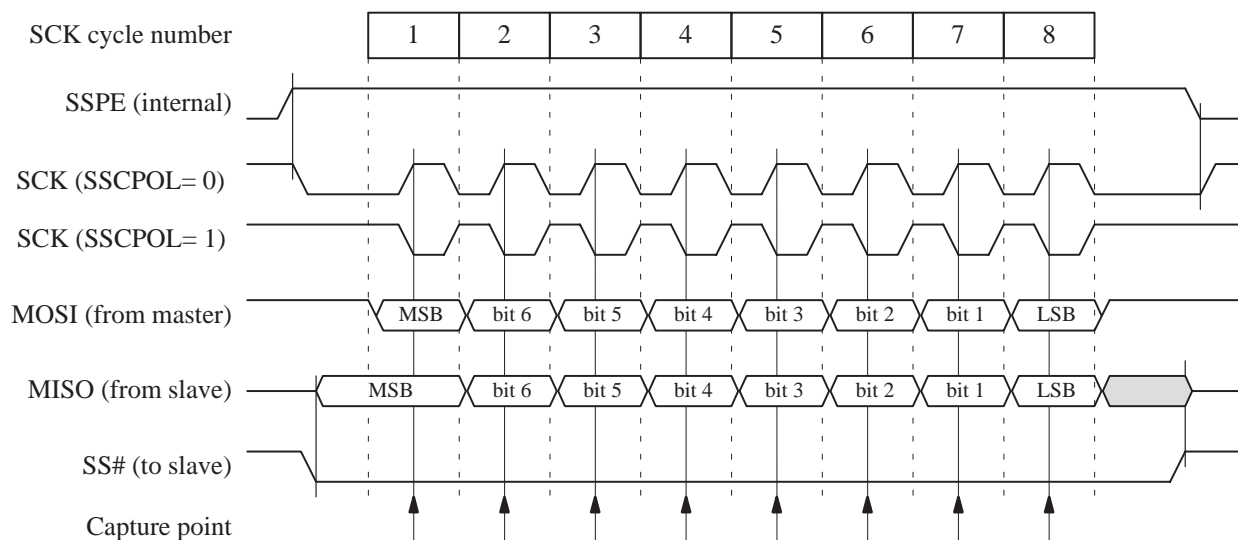
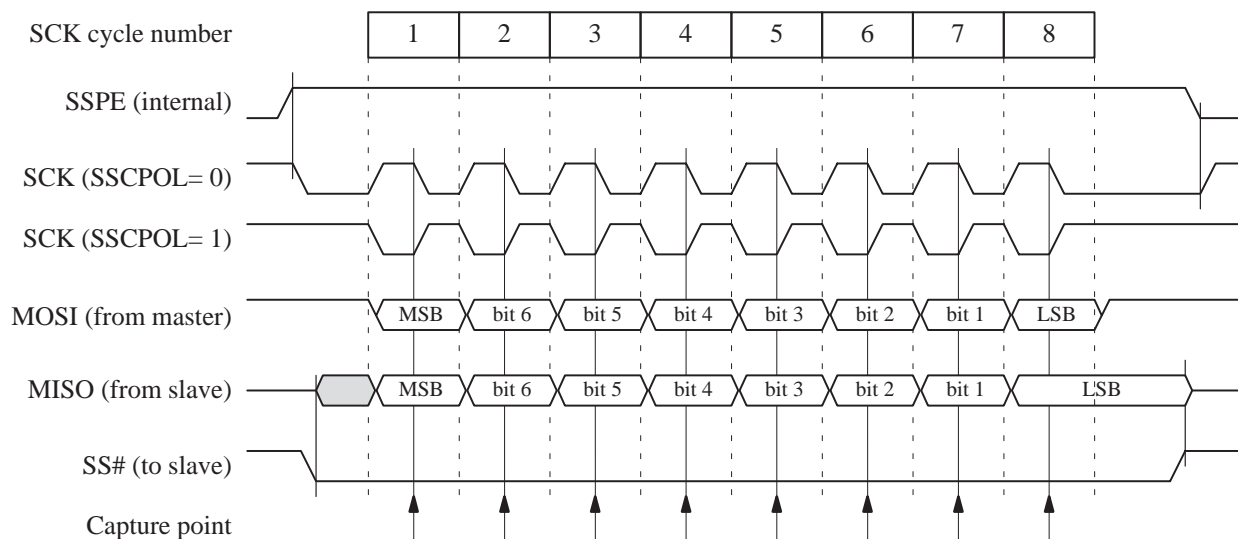

Figure 9.5 Data Transmission Format (SSCPHA= 0)
Figure 9.6 Data Transmission Format (SSCPHA= 1)
The Synchronous Serial Polarity bit (SSCPOL in SSSCON) defines the default SCK line level in idle state⁽¹⁾. Then the Synchronous Serial Phase bit (SSCPHA in SSSCON) defines the edges on which the input data are sampled and the edges on which the output data are shifted (see Figure 9.5 and Figure 9.6). It applies to both master and slave modes. The MISO signal is output from the selected slave and the MOSI signal is the output from the master. The master is capturing data from the MISO line while the slave is capturing data from the MOSI line. The SS# line is the slave select input of the slave peripheral.
5. Select a transfer format by programming SSCPOL and SSCPHA according to Figure 9.5 and Figure 9.6 and depending on the slave.
4. Select a transfer format by programming SSCPOL and SSCPHA according to Figure 9.5 and Figure 9.6 and depending on the slave.
5. Select a transfer format by programming SSCPOL and SSCPHA according to Figure 9.5 and Figure 9.6 and depending on the master.